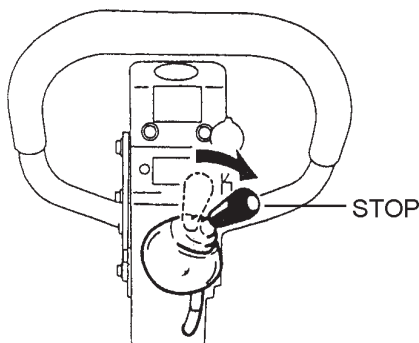
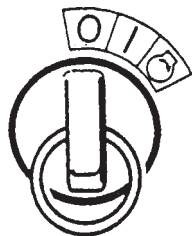

Figure 15. Throttle Lever (Stop)
Figure 16. Starter Switch (STOP)
- Turn the throttle lever to the **STOP** position (Figure 15) to stop the engine. In a motor start, return the key switch to the **STOP** position (Figure 16) as soon as the engine stops.